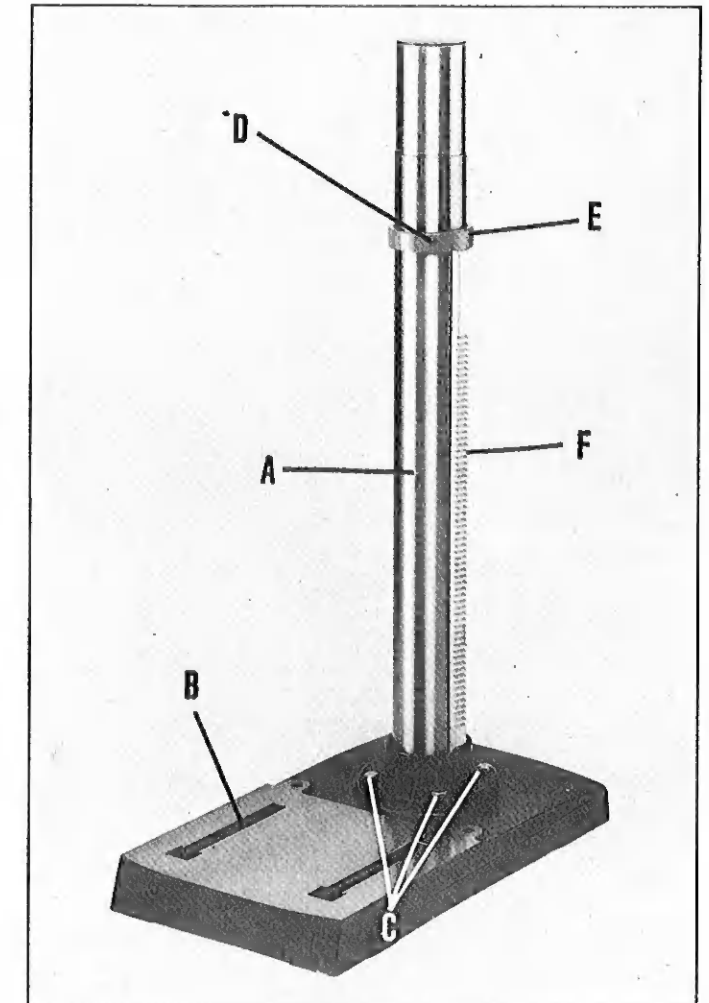

Fig 2
- Assemble column (A) to the base (B) using the four screws (C) as shown in Fig. 2. Loosen set screw (D) and remove ring (E) and raising rack (F).